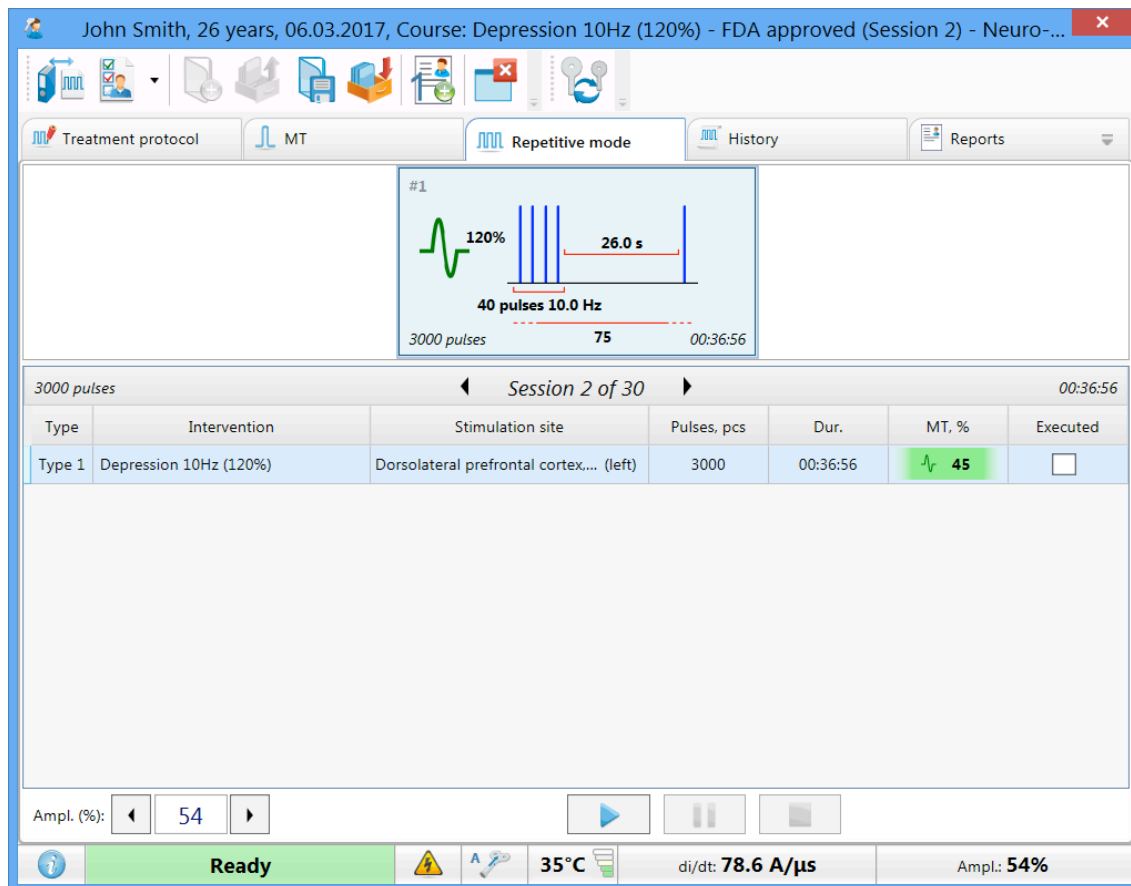

Fig. 43. Unexecuted session.
8. The program will automatically open the next unexecuted session (Fig. 43).